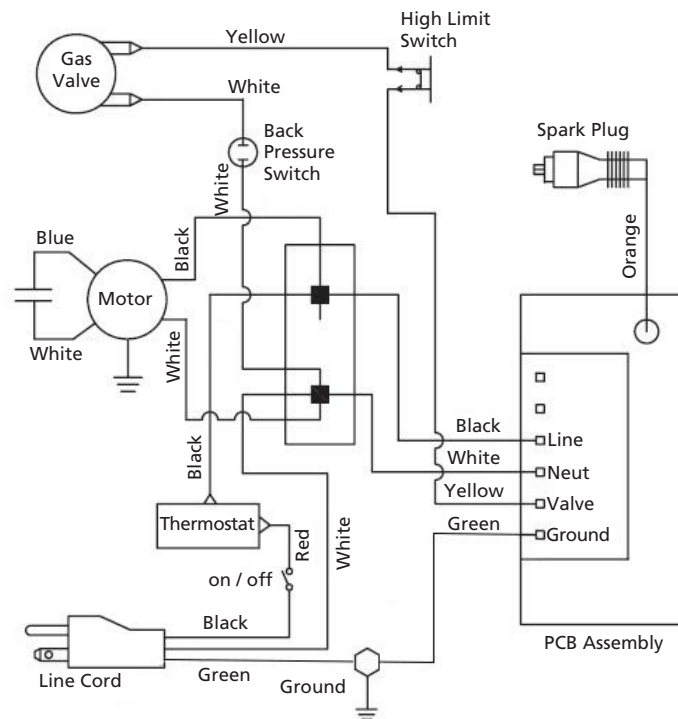

Figure 6 – Wiring Diagram
10. Reconnect lead wires as shown in the Wiring Diagram (Figure 6).